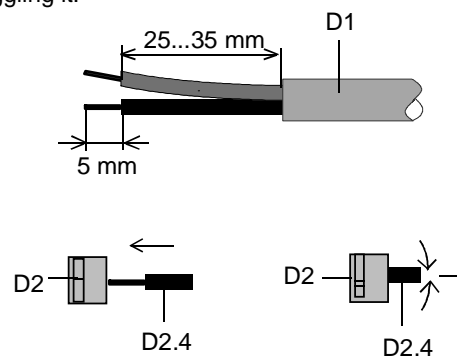

Figure 4: Connecting/disconnecting bus cables
The shutter switch UP 520/01 must be mounted placing the physical external interface (PEI) at the bottom (figure 4) ensuring that the application units designated to be plugged on the PEI are mounted in the correct operational position. To guarantee a permanently ensured contact it is recommended to use only application units with mounting screws.
Connecting bus cables (figure 4)
- press the sheathing of the cut-off insulation bus line (figure 4) projecting >3mm into the open clamping slot (C4). If a further bus line shall be connected break out the closed clamping slot with a screw-driver and press it into the clamping slot as described above. Press the single bus wires into the recess below the bus terminal block and snap on the cover (C1).
Disconnecting bus cables (figure 4)